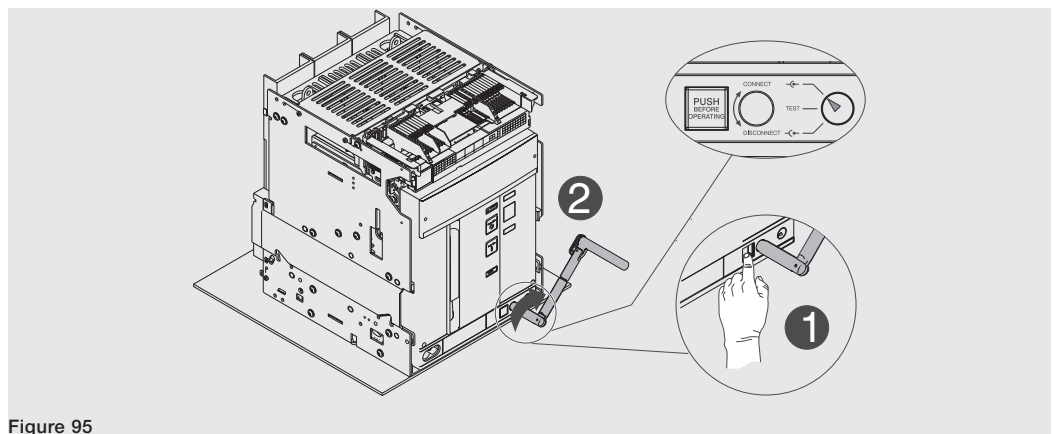

Figure 95
11. Press lock pushbutton and turn handle clockwise until pushbutton projects and signaling device indicates that circuit-breaker is in position **CONNECT**. See Figure 95.